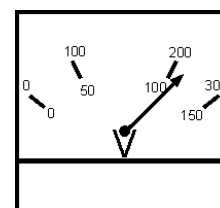
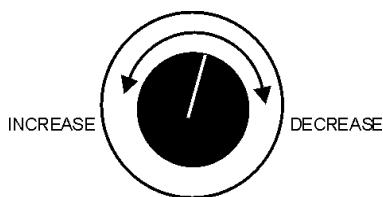

Figure 46. Voltage Meter (Volts)
Figure 47. Voltage Adjust Control Knob
11. The generator's voltage meter (Figure 46) displays the 120 VAC in VOLTS. If the voltage is not within the specified frequency tolerance, use the voltage adjustment control knob (Figure 47) to increase or decrease the desired voltage.